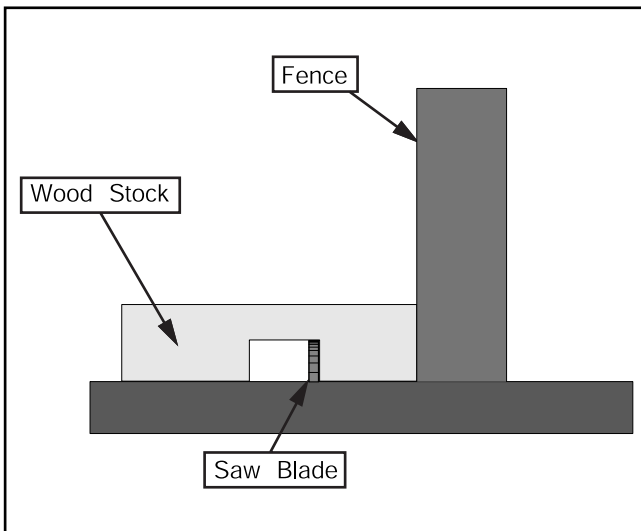

Figure 34. Single-blade dado cut.
3. If dadoing along the long length of your workpiece, adjust the fence so the blade is aligned with the inside of your dado channel as shown in **Figure 34**.